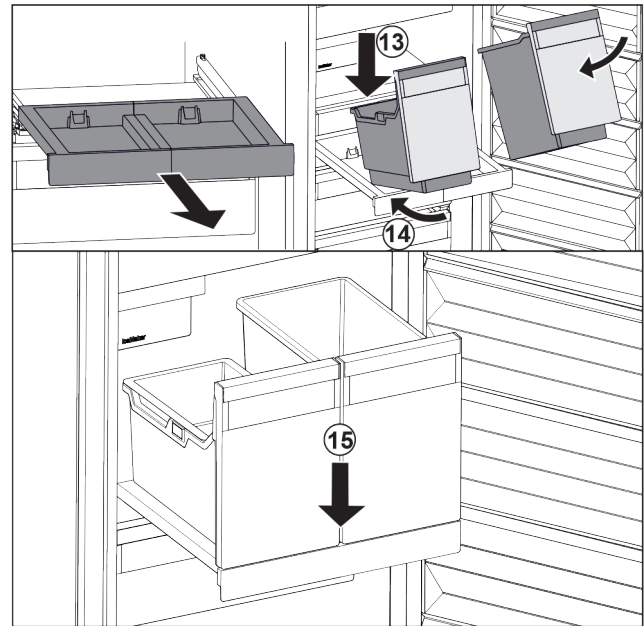

Fig. 103
- ▶ Place the container at an angle on the pull-out board. *Fig. 103 (13)*
- ▶ Slide in the container at an angle to the back. *Fig. 103 (14)*
- ▶ Place container at the front. *Fig. 103 (15)*